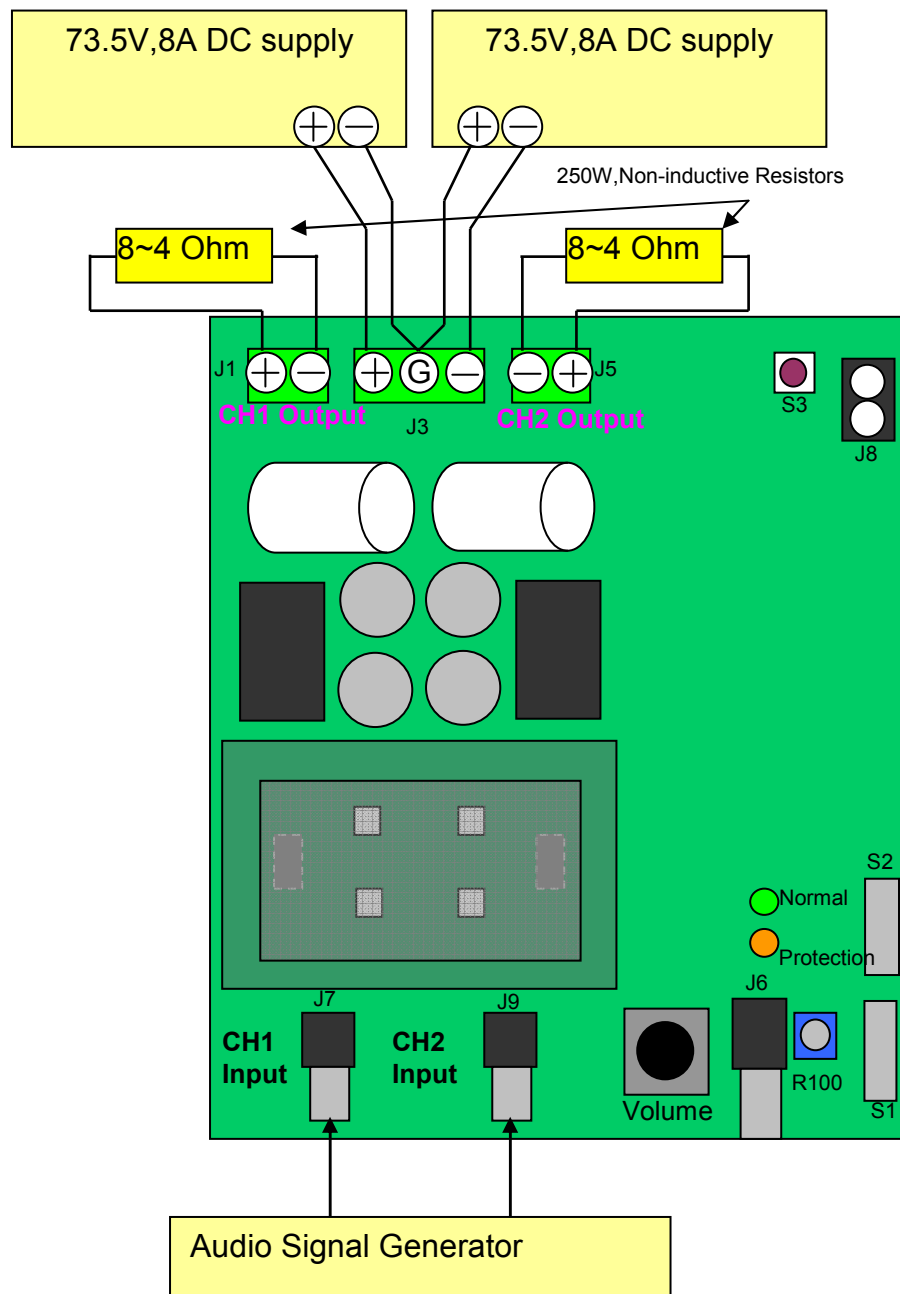

Fig 1 Typical Test Setup
1. Connect 8 Ω -250 W dummy loads to output connectors (J1 and J5 as shown on Fig 1) and parallel it with input of Audio Precision analyzer (AP).
2. Connect the Audio Signal Generator to J7 and J9 for CH1 and CH2 respectively (AP).
7. Connect the dual power supply to J3. as shown on Fig 1